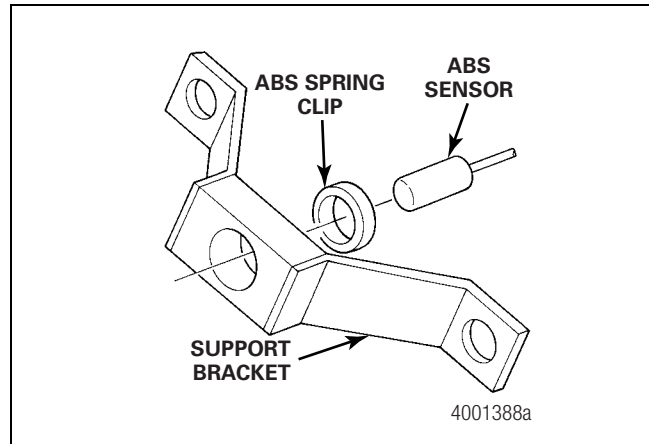

Figure 3.17
8. Use hand pressure to disassemble the ABS sensor from the ABS spring clip and the ABS support bracket. Figure 3.17.